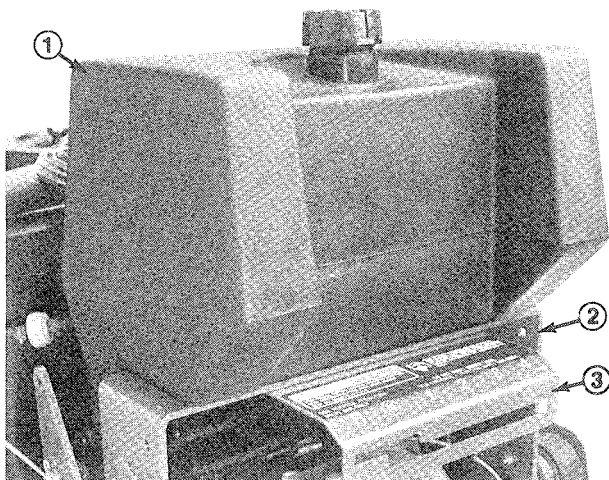

Figure 1
1. Position fuel tank onto rear frame aligning mounting holes as shown in Fig. 1.
and washers (Fig. 1 & 2). Do not tighten capscrews at this time.